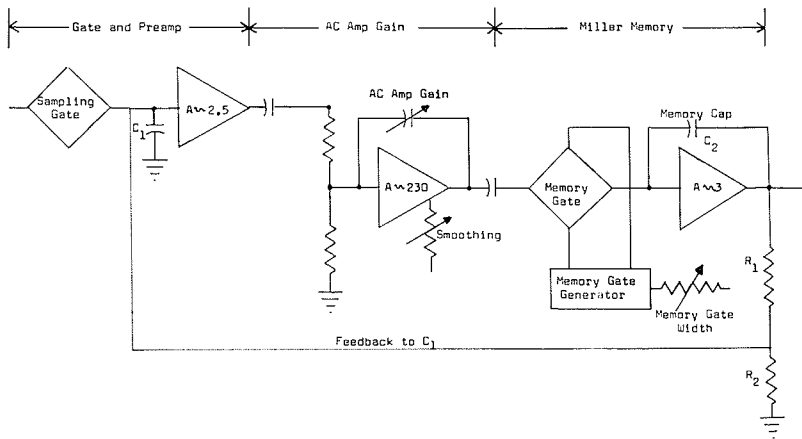

Figure 3. Tektronix slide-back, feed-back sampling system.
Let's refer again to Figure 3 and review some of the primary objectives here which are: (1) charge C_1 to the amplitude of the input signal as much as possible during the useable period of the strobe pulse to increase sampling efficiency, (2) feed back an amplified version of this signal between samples to charge C_1 to the full level of the input signal, (3) simultaneously charge C_2 to a value proportional to the input signal level and permit C_2 to retain this charge long enough for us to observe low rep-rate signals.
A cursory analysis of the system as shown in Figure 3 reveals that the following controls all have a direct effect on dot transient response: